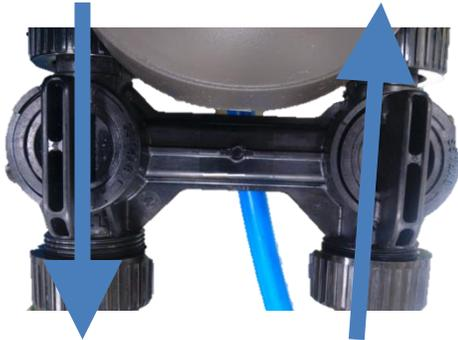

Figure 17: Normal Operation
- c. Open the bypass valve into normal operation (Figure 17)